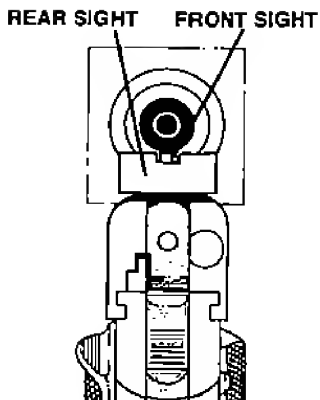

FIGURE 7-AIMING
3. Grasp pistol by stock and, with index finger resting along the outside of trigger guard, take aim. Aim by aligning target with front and rear sights. (See Figure 7).